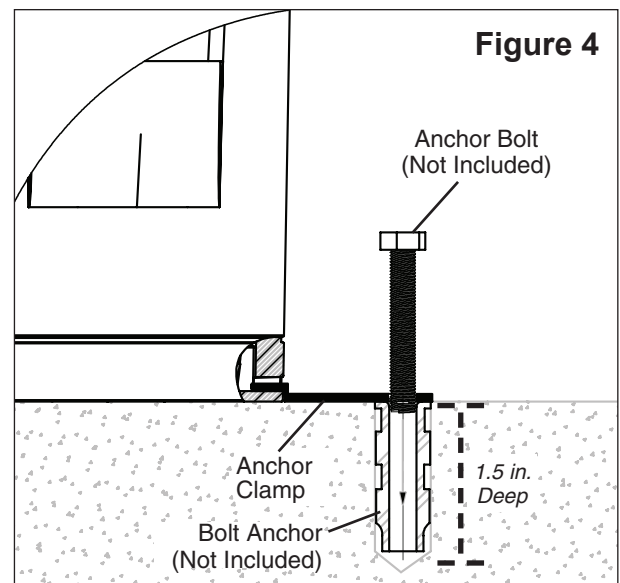

Figure 4
5. Use a masonry drill bit and drill a hole in the cement with a diameter as determined by the concrete anchor, at each of the marks on the equipment pad. The hole should be approximately 1.5 inches deep. See **Figure 4**.